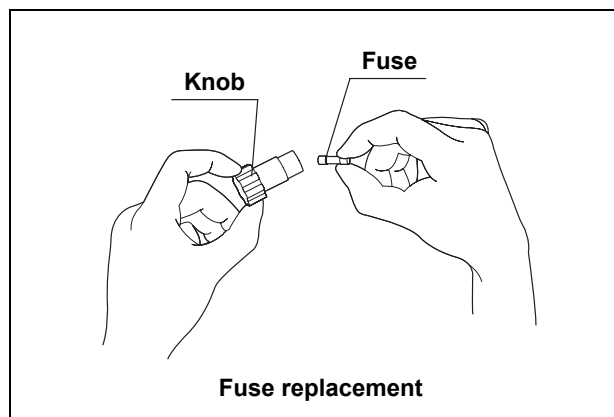

Figure 4.3
6. Inspect the fuses (see Figure 4.3). Even if only one fuse has blown, always replace both of them.